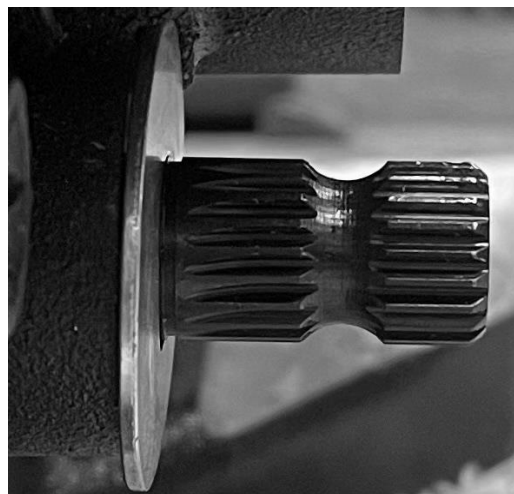

FIGURE 6 | SHIFTER PAWL FULLY INSTALLED IN TRANSMISSION CASE; ENTIRE RETAINING RING GROOVE SHOULD BE VISIBLE
2. If the retaining ring groove is completely visible as shown in figure 6, no modification is required and the retaining ring may be installed.